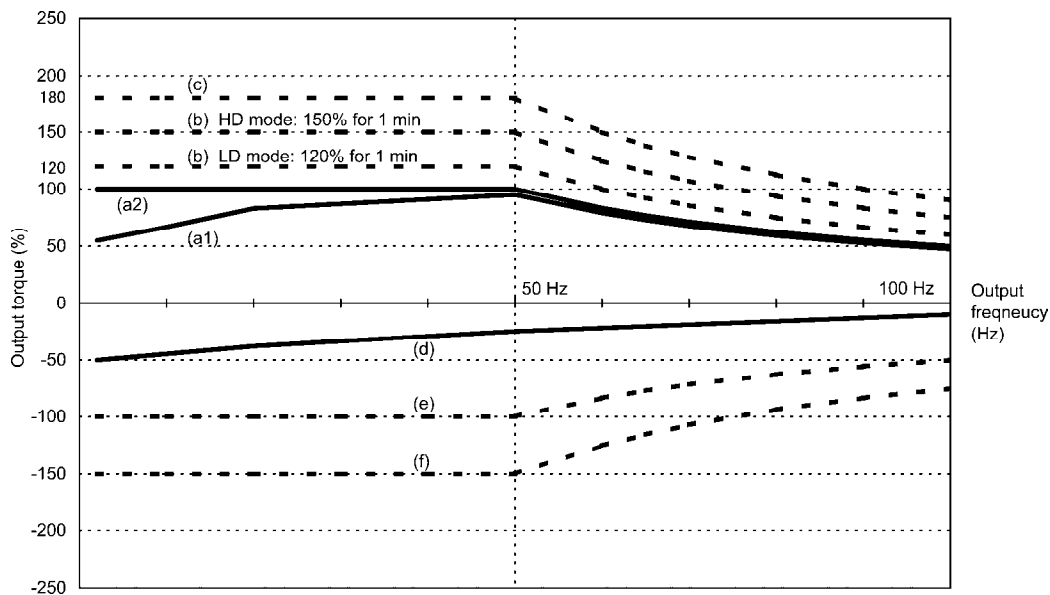

Figure 3.1 Output Torque Characteristics (Base frequency: 50 Hz)
Figures 3.1 and 3.2 graph the output torque characteristics of motors at the rated output frequency individually for 50 Hz and 60 Hz base. The horizontal and vertical axes show the output frequency and output torque (%), respectively. Curves (a) through (f) depend on the running conditions.
(1) Continuous allowable driving torque
① Standard motor (Curve (a1) in Figures 3.1 and 3.2)
② Motor exclusively designed for vector control (Curve (a2) in Figures 3.1 and 3.2)
(2) Maximum driving torque in a short time (Curves (b) and (c) in Figures 3.1 and 3.2)
(3) Starting torque (around the output frequency 0 Hz in Figures 3.1 and 3.2)
(4) Braking torque (Curves (d), (e), and (f) in Figures 3.1 and 3.2)